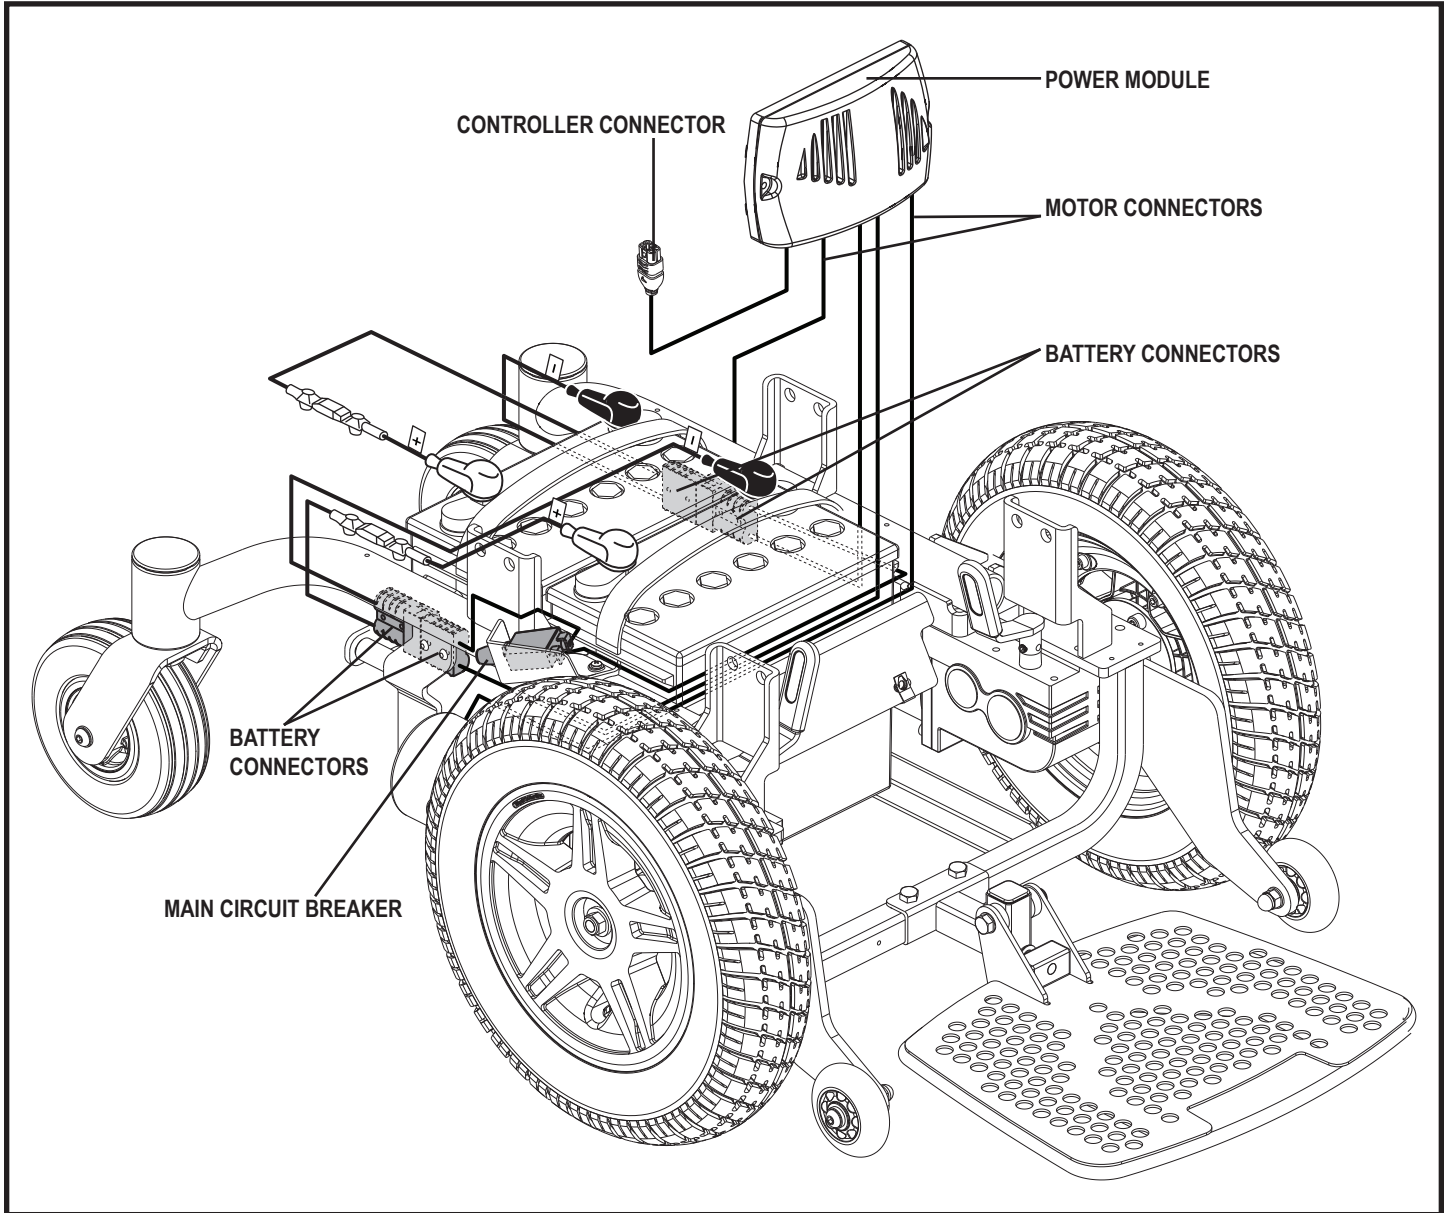

Figure 3. Jazzy Elite Series Electrical Components
The electrical components are located either on or inside the power base. The main circuit breaker is located on the right side of the power base. The power module is located under the front cover. **See figure 3.**
**Main Circuit Breaker:** The main circuit breaker is a safety feature built into your power chair. When the batteries and the motors are heavily strained (e.g., from excessive loads), the main circuit breaker trips to prevent damage to the motors and the electronics. If the circuit trips, allow your power chair to “rest” for approximately one minute. Next, push in the circuit breaker button, turn on the controller, and continue normal operation. If the main circuit breaker continues to trip repeatedly, contact your authorized Pride Provider. **See figure 3.**
5. Plug the controller connector into the front of the power base. **See figure 3.**
3. Unplug the controller connector(s) from the power base. **See figure 3.**